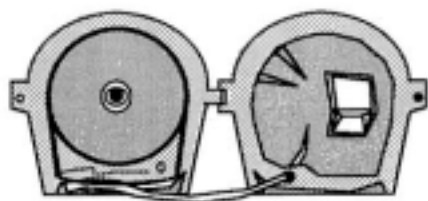

Figure 1
1. Place Model Trimmer in a suitable bench top location, next to a sink drain and water source. Attach 1" vinyl drain hose to drain outlet located on lower rear housing of model trimmer (under the motor base). Place other end of drain hose in sink or proper drain location. Make certain vinyl outlet hose is lying flat and not "kinked" on bench top so water will flow smoothly from the rear exhaust drain. Connect open end of inlet tubing to the brass inlet located on lower right side of inside front housing. It will be necessary to open the two housings to accomplish this procedure. Make certain to pass inlet tubing through cut-out provided in lower rear housing (see Figure 1). Secure with clamp provided. The rubber faucet adapter is now ready to place over your faucet. Note: Should the rubber faucet adapter fit too loosely onto your faucet outlet, fold (wrap) the rubber adapter back upon itself to reduce the inside diameter of the rubber faucet adapter.